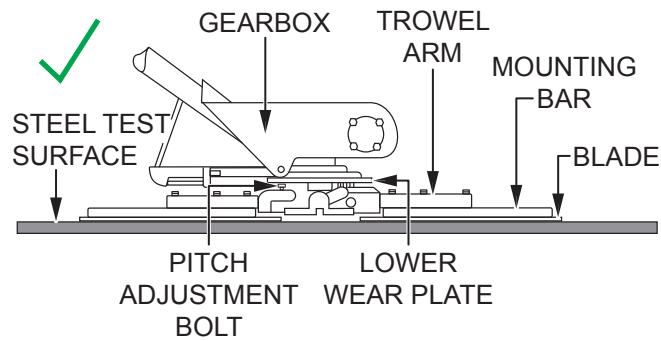

Figure 65. Blades Pitched Flat (Correct)
2. Pitch the blades as flat as possible (Figure 65). The pitch adjustment bolts should barely contact (0.10 inch maximum clearance) the lower wear plate. All adjustment bolts should be spaced the same distance from the lower wear plate. If any one of the bolts does not make contact, adjustment is necessary.